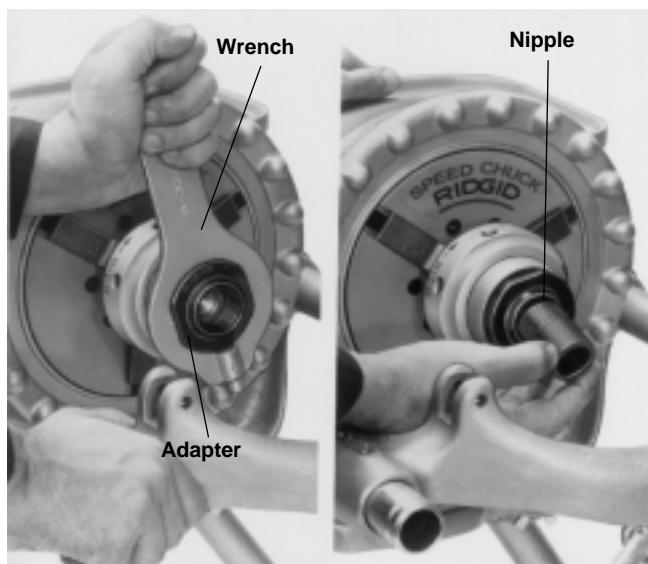

Figure 23 – Installing Nipple Chuck Adapter and Nipple
4. Select proper size nipple chuck adapter and screw into nipple chuck (Figure 23) by hand. Tighten with wrench.
5. Screw nipple (Figure 23) threaded on one end into adapter by hand. Ream and thread other end.